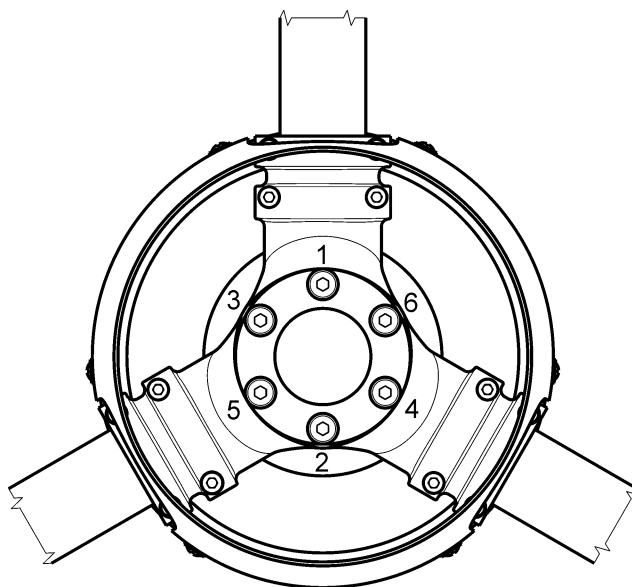
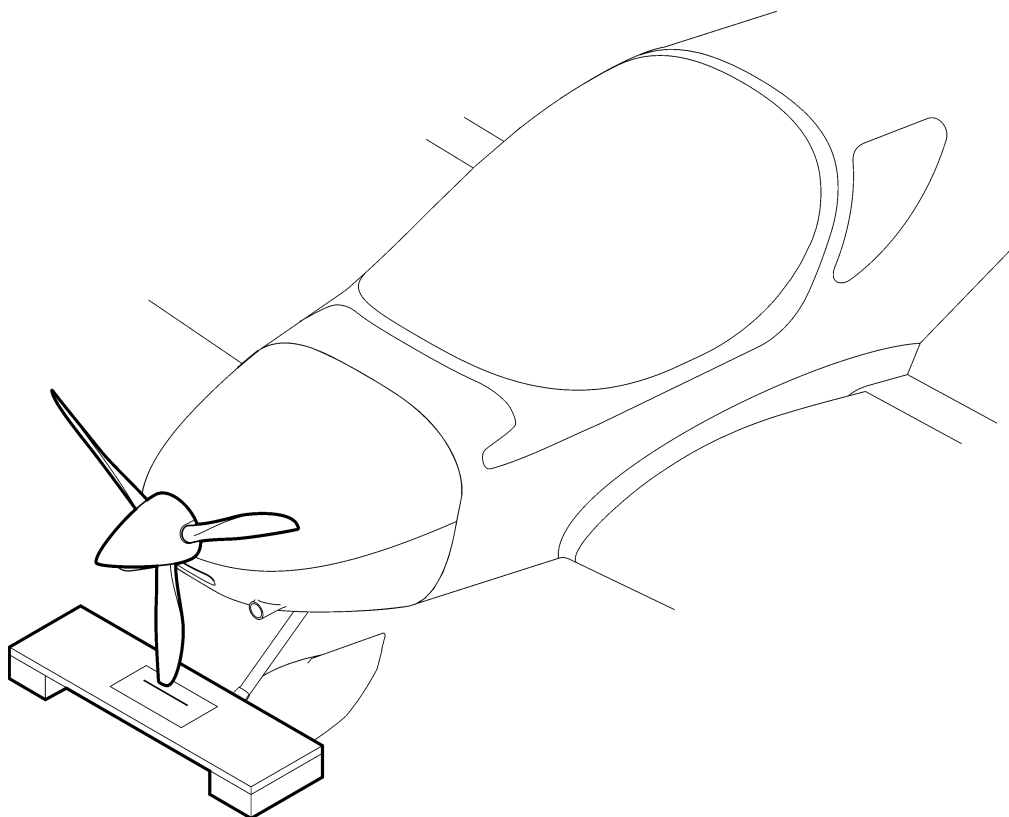
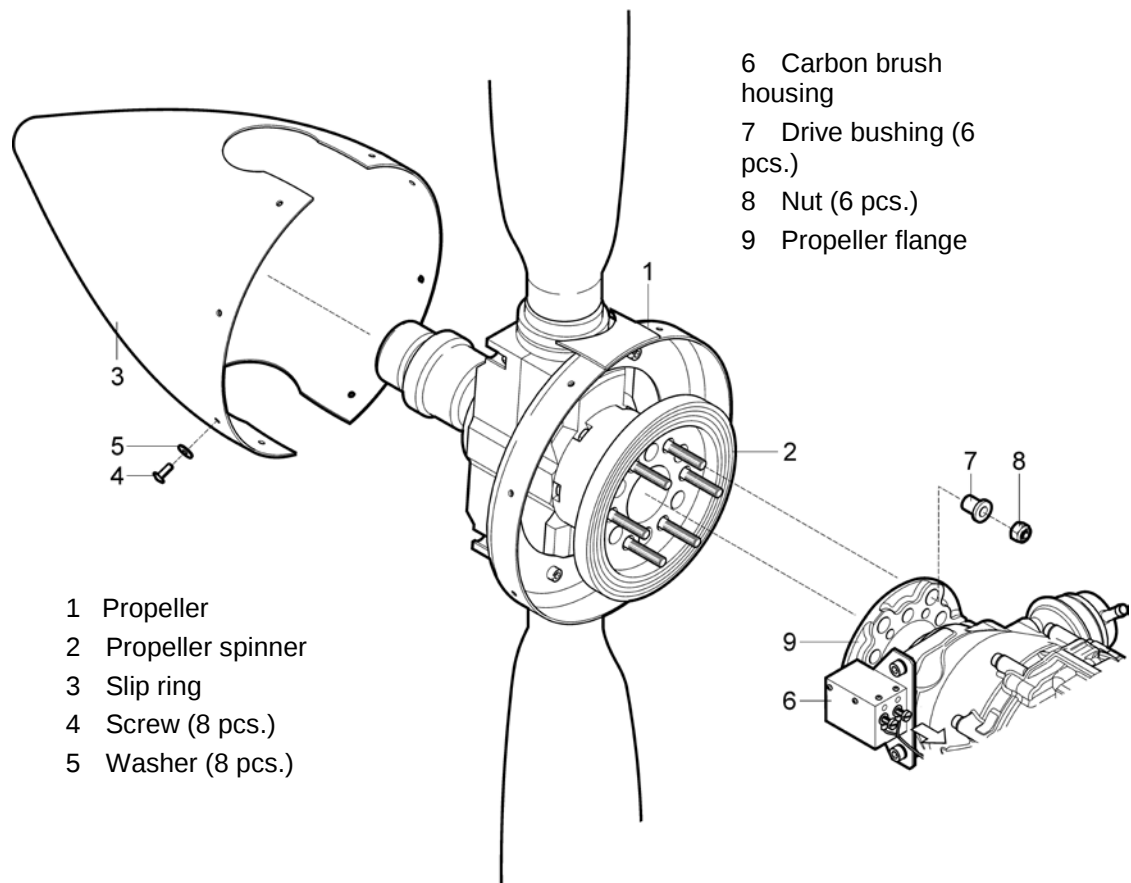
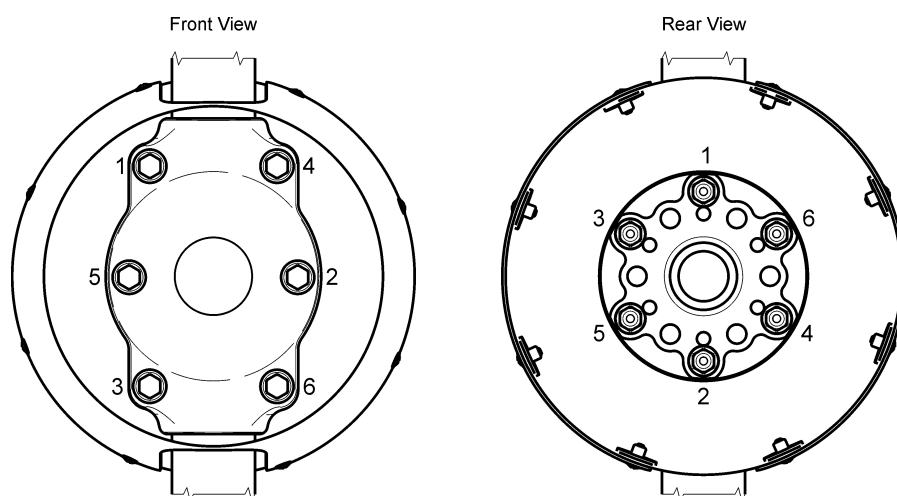

Fig. 10-13: Bolt tightening sequence
Fig. 10-14: Check of axial propeller running-out
Fig. 10-15: SR 3000 propeller removal / installation
Fig. 10-18: Bolt tightening sequence
- Attach the propeller (1) and the spinner flange (9) to the spacer (3) on the engine flange (6) by means of the bolts (7) with washers (10).
- Tighten the bolts (7) using a star pattern (Fig.10-13) with torque 22 Nm (16.2 ft.lb.), and measure the difference in distance of individual blade tips from marking (see Fig. 10-14).
- (b) As necessary, unscrew the screws (4, Fig. 10-15) with the washers (5) and remove the propeller spinner (3).
- (c) Unscrew and remove the nuts (8) and take out the propeller from the propeller flange (9).
- (b) Check the contacting areas of the propeller flange (9, Fig. 10-15) and the propeller. Clear of all impurities.
- (d) Loose the screws of the carbon brush housing flange and shift the carbon brush housing (6) to its rear position.
- (e) Gently push the propeller (1) to the propeller flange (9) by hand and screw the nuts (8).
- (g) Tighten the nuts (7) using a star pattern (see Fig.10-13) with torque 22 Nm (16.2 ft.lb.).
- (i) As necessary, put the propeller spinner (3, Fig. 10-15) on the propeller and attach it with bolts (4) with washers (5).
- Place the spinner flange (12), the hub mount half (1) and spacer (14) on the engine propeller flange (11) (vertical orientation of the hub is recommended).
- Insert drive bushings (15) through the back face of the propeller flange and into the hub mount half (1). Check for proper bushing and pilot stub fit into the hub mount half. The hub must sit flush on the mounting flange.
- Place washers (8) on bolts (10) and insert into the mounting holes inside the hub mount half (1). Place lock washers (8) and nuts (9) on the bolt and tighten the bolts using a star pattern with torque 22 Nm (16.2 ft.lb) (see Fig. 10-18).
- (h) Place the hub cover half (2) over the blades. Place washers (8) on bolts (7) and insert into the hub cover half (2). Hands tighten the bolts (7) into the threaded clamp bushings, taking care to maintain an even gap between hub halves on all sides. Grasp each blade shank and firmly pull outwards to seat each blade in the hub.
- (j) Using a torque wrench and rotating from bolt to bolt, tighten the bolts the bolts using a star pattern with torque 22 Nm (16.2 ft.lb.) (see Fig. 10-18), Check the blade pitch setting for rotation away from your desired pitch setting. Once properly torqued, a small gap may remain between hub halves. Check the propeller blades for track (see Fig. 10-14). The blades should track within 1/8" (3.175 mm) of each other at the tip. Setting the pitch accurately is more important than track from blade to blade.